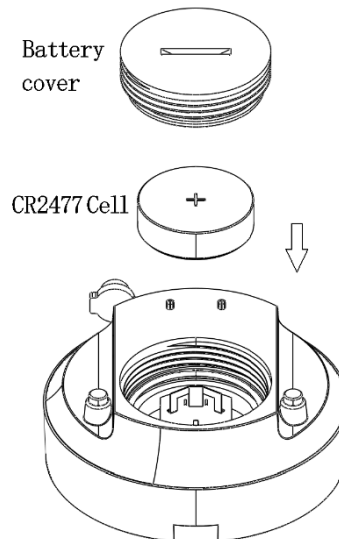

Figure 12
- 1) Insert the CR2477 battery into the water sensor (refer to Figure 12). The sensor will automatically pair and connect with the central controller.
- 3) Insert the CR2477 battery into the wireless water sensor to be paired (refer to Figure 12). The sensor's indicator light will flash twice and then turn off. After two beeps, the corresponding digital light on the central controller will remain on, confirming successful pairing.